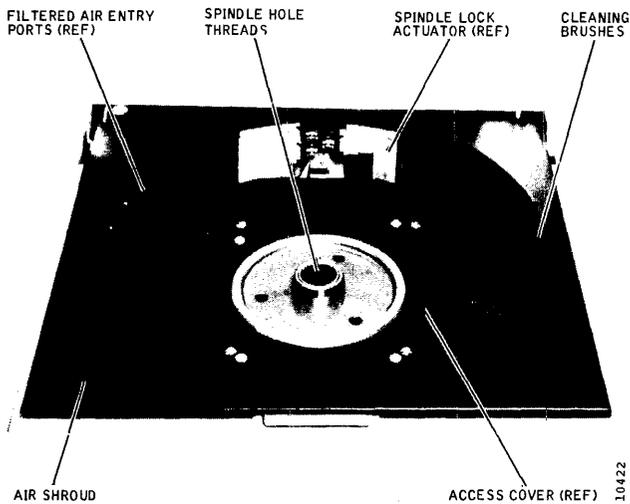

Figure 4-7. Disk Pack Area Components
- Carefully move the cleaning brushes (Figure 4-7) out of their recess by pulling the brush arm out slowly by hand.